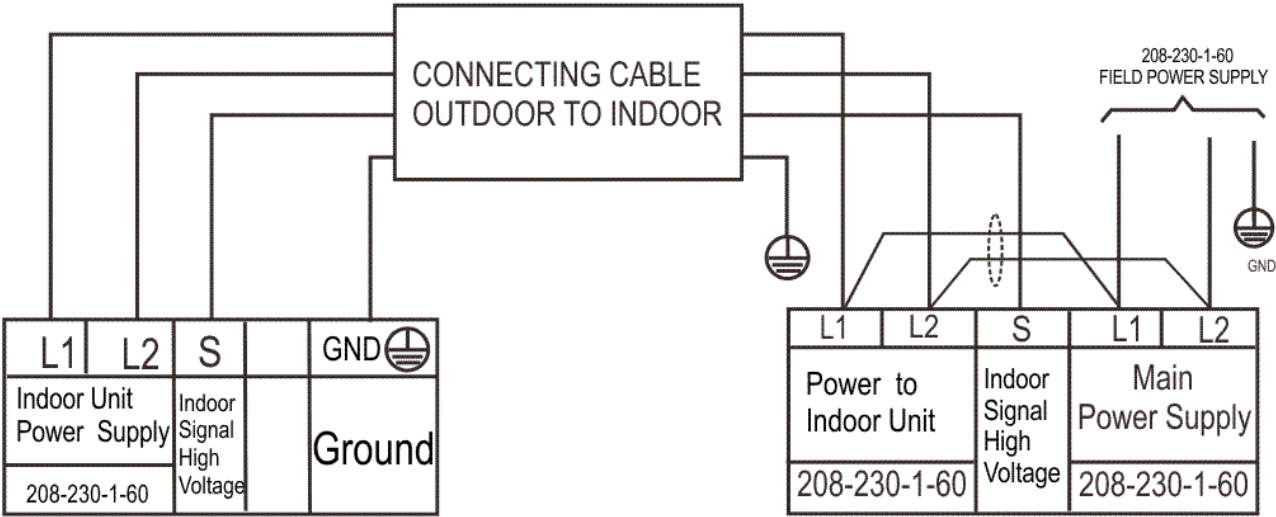

Fig. 27 — Connection Diagram
3. Connect wiring from the outdoor unit per the connection diagram (see Fig. 27).